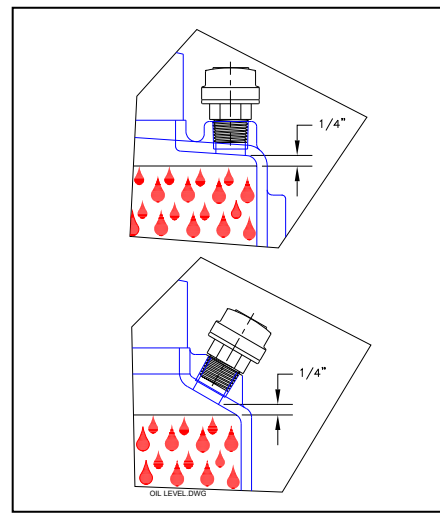

FIGURE 1A
1.013 Set capacity knob to zero and remove Air Bleed Plug from the top of Oil Chamber, refer to drawings HP-1102 (page 22) for Series 500 and drawing 5024 (page 28) for Series 500-A and 500-E for location of plug. Fill gear box and pump by pouring the hydraulic fluid supplied through the fill opening at the rear of the pump. Pour fluid in slowly until it has reached the correct level per Figure 1A. Do not over fill as this can cause damage to the motor.
Under normal conditions, the “dia-PUMP” does not require any significant amount of maintenance. It is advised that periodic visual observations be made of the oil level. See Page 5 (Figure 1A) for correct oil level. The liquid end of the pump should also be inspected for leakage. These observations should be made regularly, at least every 48 hours.